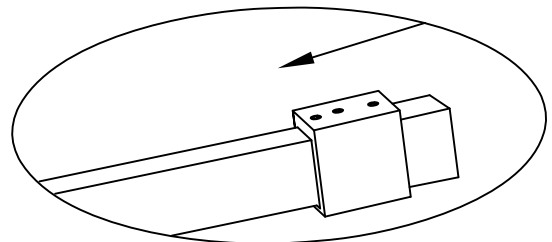

Fig. 10
- Locate the Rail Mount Assembly (22) and remove the stainless steel fitting and glass connector parts from the rail mount. Loosen the set screws in rail mount and slide onto end of Top Rail (2) making sure the end of rail mount which is with top and bottom set screws is facing toward end of Top Rail (2). Loosely tighten set screws in rail mount to secure. See Fig.10 for details